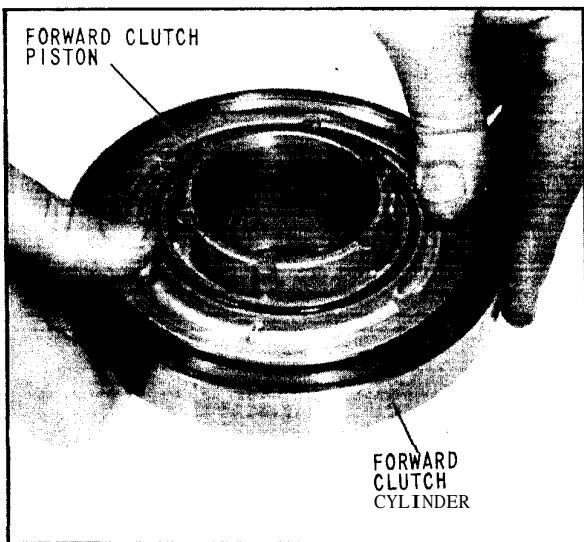

Fig. 41 Installing Forward Clutch Piston
27. After aligning the assembled forward clutch piston squarely on the assembled forward clutch cylinder, press the clutch piston into the forward clutch cylinder, as shown in (Fig. 41). This is a hand assembly and should not require pounding by hammer or pressing on arbor press. Assembly is complete when piston "bottoms" in forward clutch cylinder.